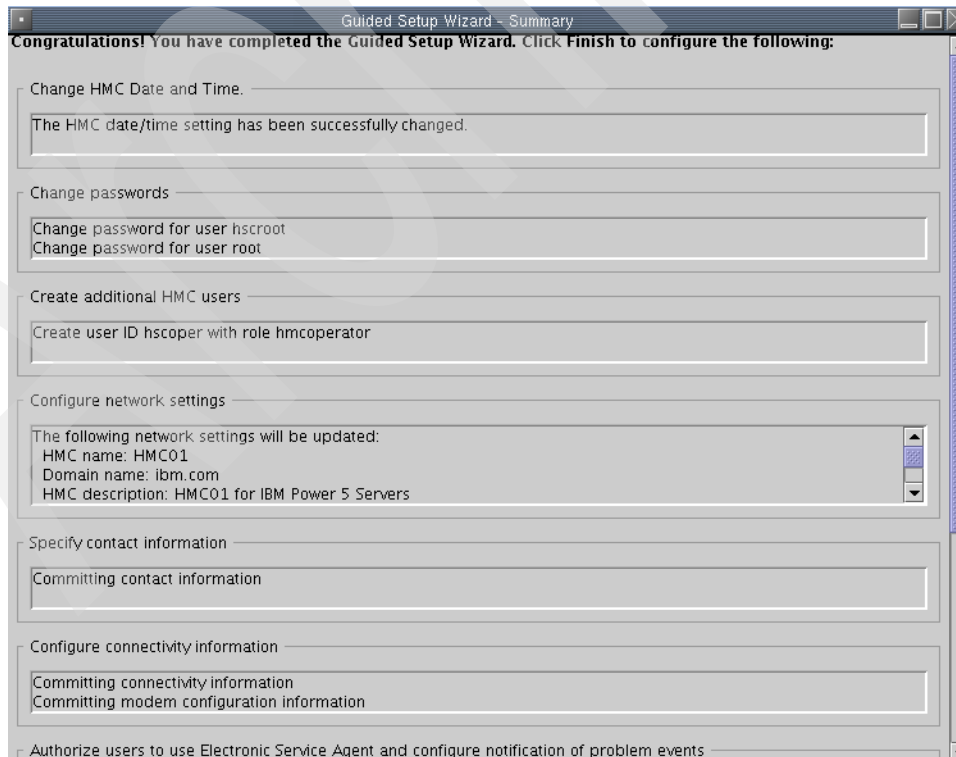

Figure 4-43 Guided Setup wizard - Summary panel - top
40. The Guided Setup wizard - Summary panel is displayed (Figure 4-43). You can see all the changes that the Guided Setup wizard is **about** to make.